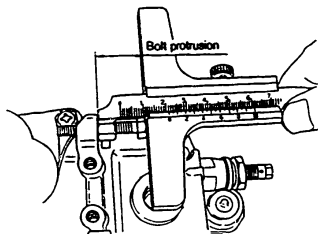

Fig. 3 Measuring the bolt protrusion
1. Measure the amount that the maximum-speed stopper bolt protrudes from the governor cover. (Fig. 3)